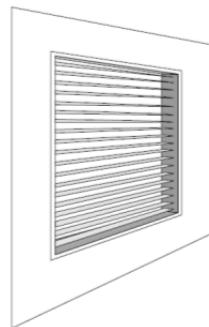

Figure 22: An exterior shade screen fits neatly within window framing, a bit away from the glass.
- **Use exterior shade screens for a smooth facade.** Exterior shade screens (Figure 22) are highly effective on all facades and permit a filtered view. These can be insect screens, perforated metal scrims, or roller shades. The openness of shades determines the effectiveness of shading. Moveable roller shades provide greater energy efficiency.